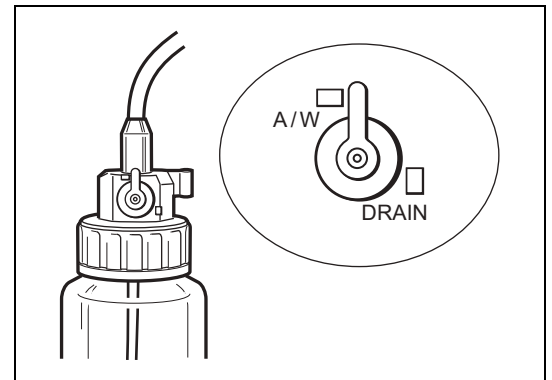

Figure 3.2
- 4 Align the A/W DRAIN lever with the A/W (air/water supply) position. (Refer to Figure 3.2.)